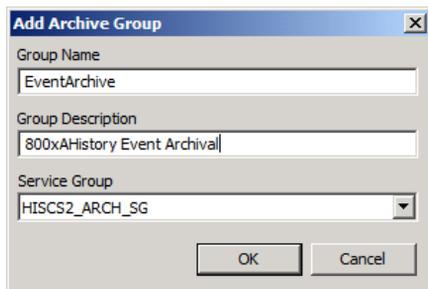

Figure 244. Add Archive Group dialog
2. Add Archive Group dialog box displays as shown in Figure 244.